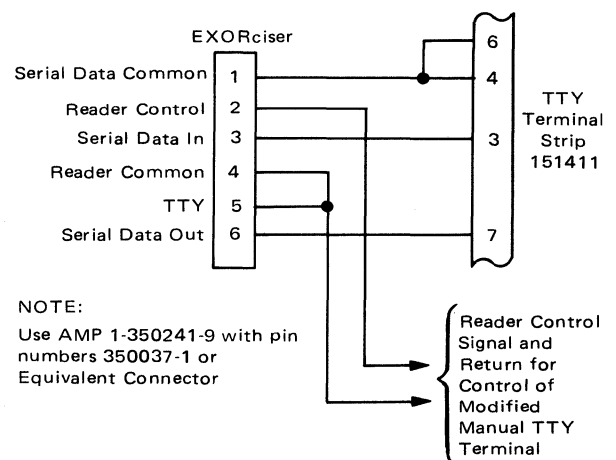

FIGURE 2-1. TTY/EXORciser Interconnection Cable
- (b) Referring to Figure 2-1 and Table 2-1, construct the interconnection cable to be used between the EXORciser and the TTY terminal. Use the connector supplied with the EXORciser.